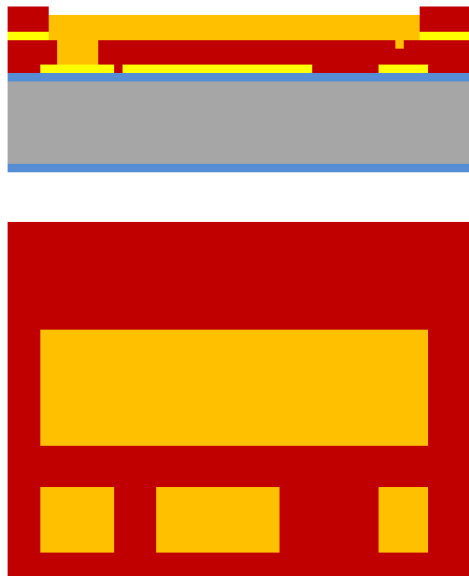

Figure 12 Electroplated MEMS cantilever and DC probe pads.
- xii. After the plating time is complete, turn off the power supply (**Figure 12**).